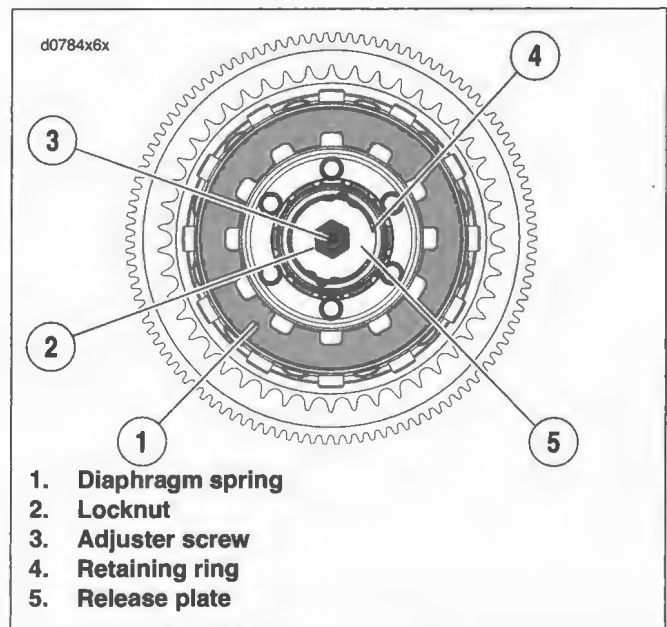

Figure 6-19. Clutch
7. See Figure 6-19. Install release plate (5) with locknut (2) and adjuster screw (3) into clutch hub bore. The word "OUT" stamped on the release plate should face outward.